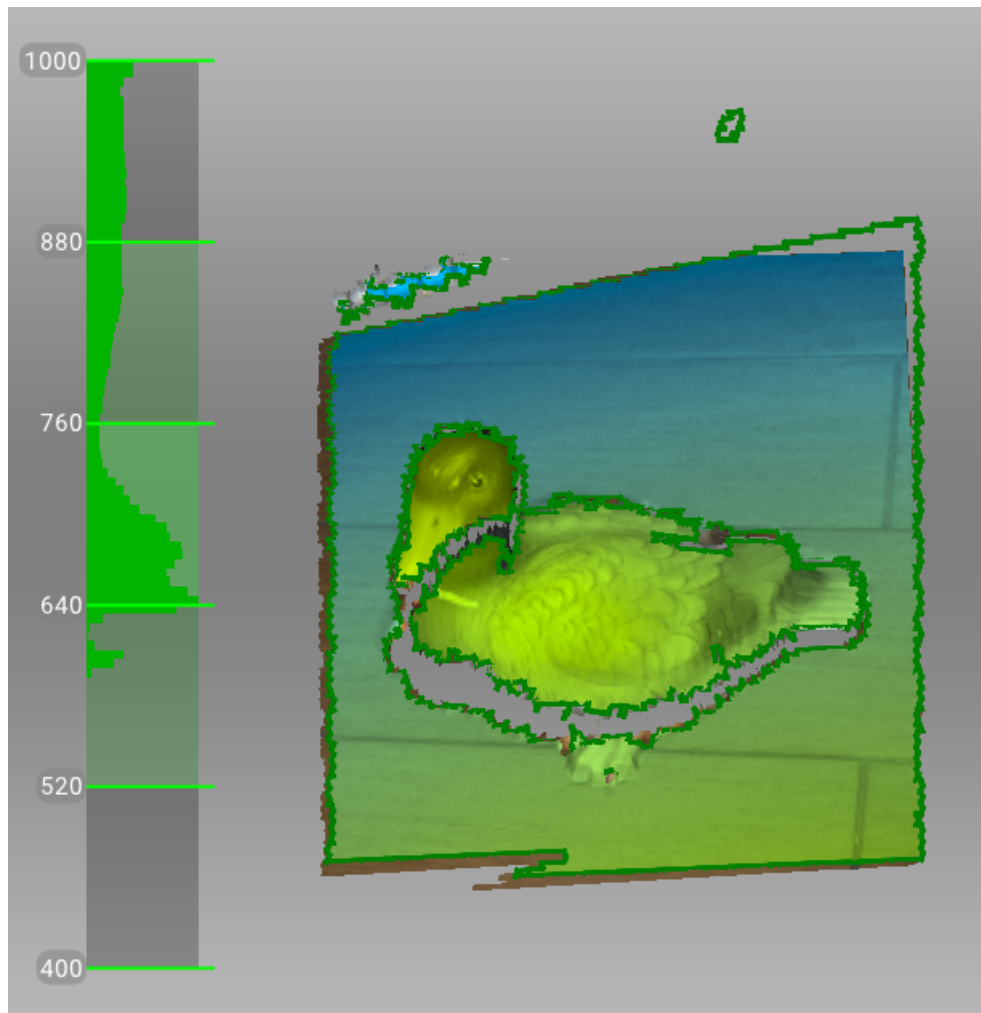

Figure 39: Distance meter and distance color showing surfaces that fall within the optimal range for Artec EVA.
- Try to position the scanner in the way the most surfaces in the field of view are colored in green which corresponds to the center of the range meter¹ (Figure 39)
¹ Technically, the center of the range meter is the center of the depth of view. The 3D scanner has near and far cutting planes (see Figure 12) that determine the optimum distance between the scanner and the target object. Artec Studio offers the *Range meter* feature so you can easily visualize the distance between the scanner and the object during the recording process. The *Range meter* comprises a set of semitransparent diagrams located on the left side of the *3D View* window (see Figure 39). Each histogram displays the distribution of captured surface points by distance from the scanner. The color corresponds to the set of surfaces from which it was obtained: by default, gray indicates registered key frames, dark green indicates the last successfully registered frame and red indicates a registration error.